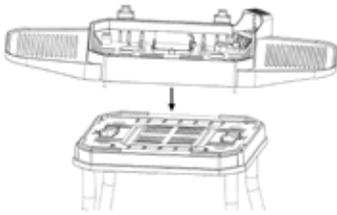

Fig. 5
7. Next, place the grill housing [9] on the grill base [11] and turn the two clamps on the bottom anticlockwise. Grill housing and grill base are not interconnected (Figs. 5, 6, and 7).